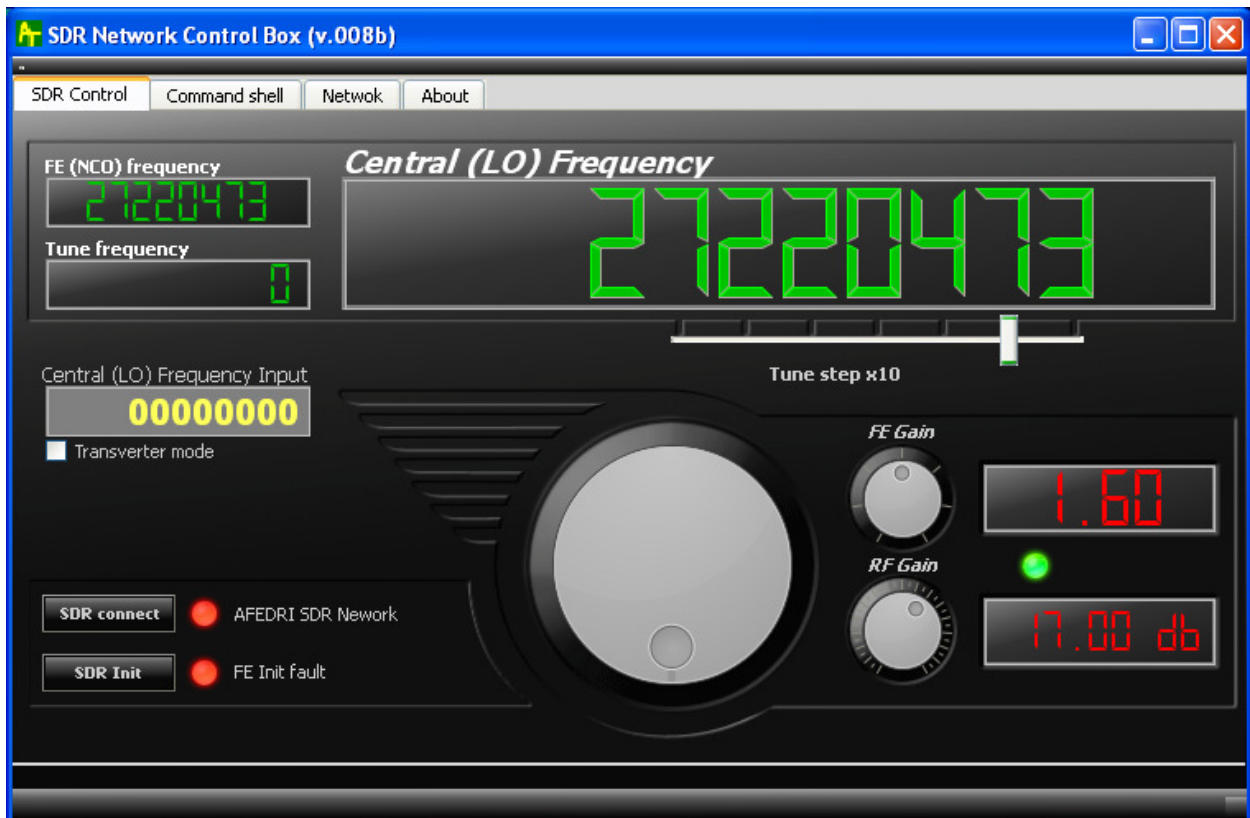

Figure 2 SDR Network Control Box screen when AFEDRI SDR-NET disconnected from PC
3.1.7. Virtual LED indicator (green/red) and text message (on right side of button «SDR connect») – shows initialization status of SDR. If SDR was found and firmware started successfully, then indication color is - green and text message is a name of USB device, that was found (for example – “AFEDRI-SDR Audio”). If the SDR is not connected to the PC or there is some fault, the indicator color will be red and error message will be shown (see. Figure 2.).
3.1.9. Virtual LED indicator (green/red) and text message (on right side of button «SDR Init») – shows initialization status of Front End chip inside of SDR. If Front End was initialized successfully, the indicator color is green and there is a text message on right side of the indicator. If a fault occurs in the time of Front End initialization, the indicator color is red, and error message is shown (cm. Figure 2.).